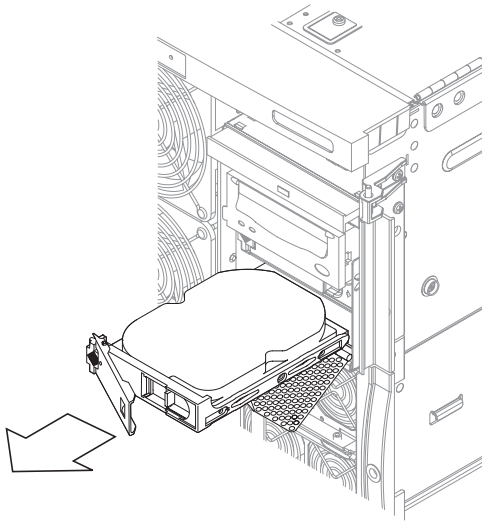

FIGURE 6-4 Removing the Hard Disk Drive
9. Remove the drive from the drive bay while holding the drive handle (FIGURE 6-4).